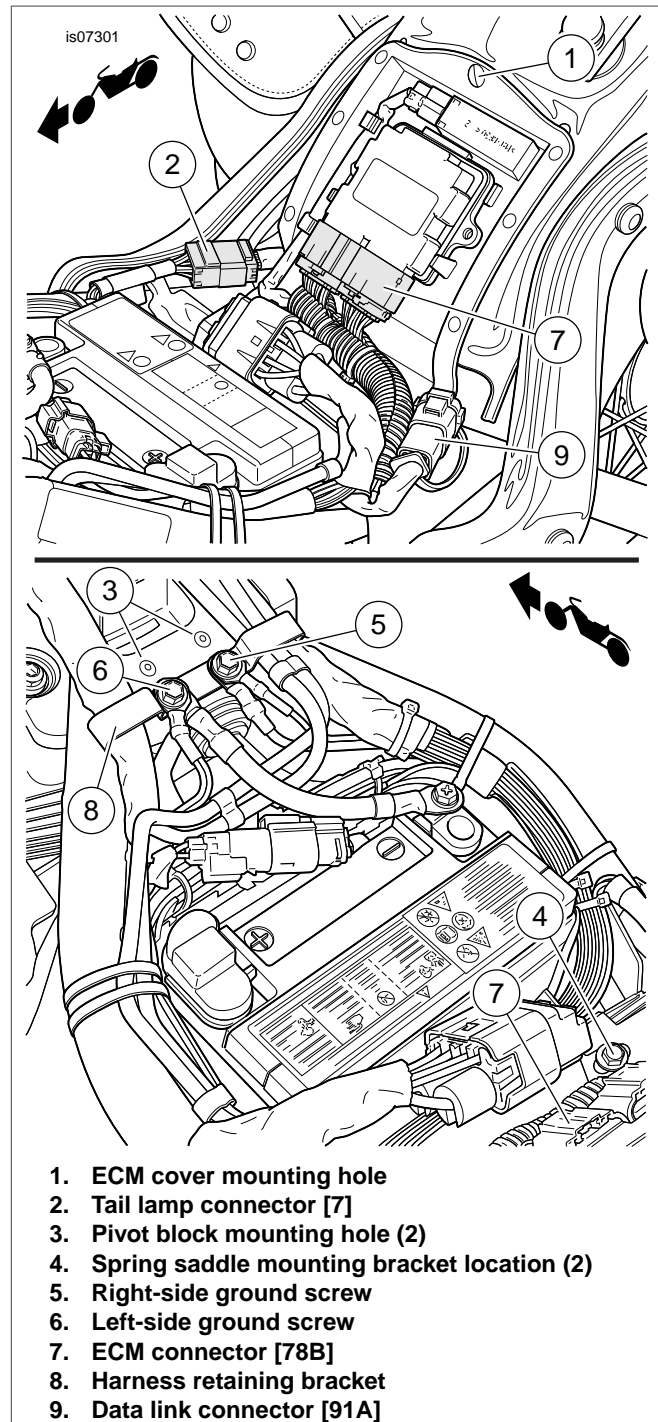
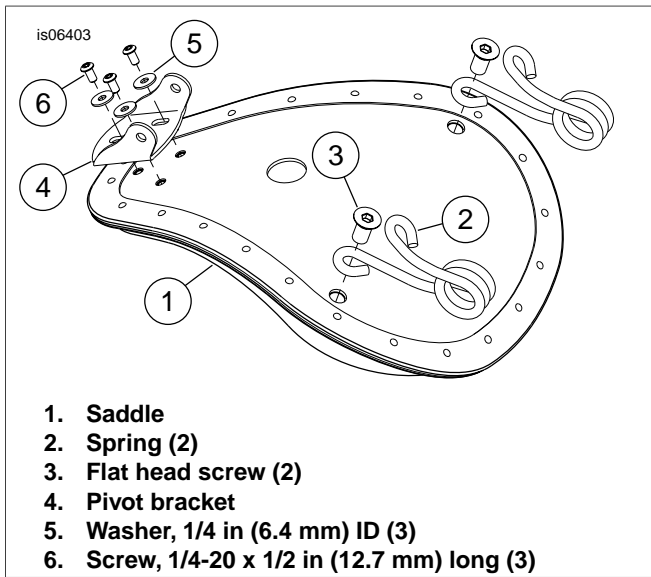
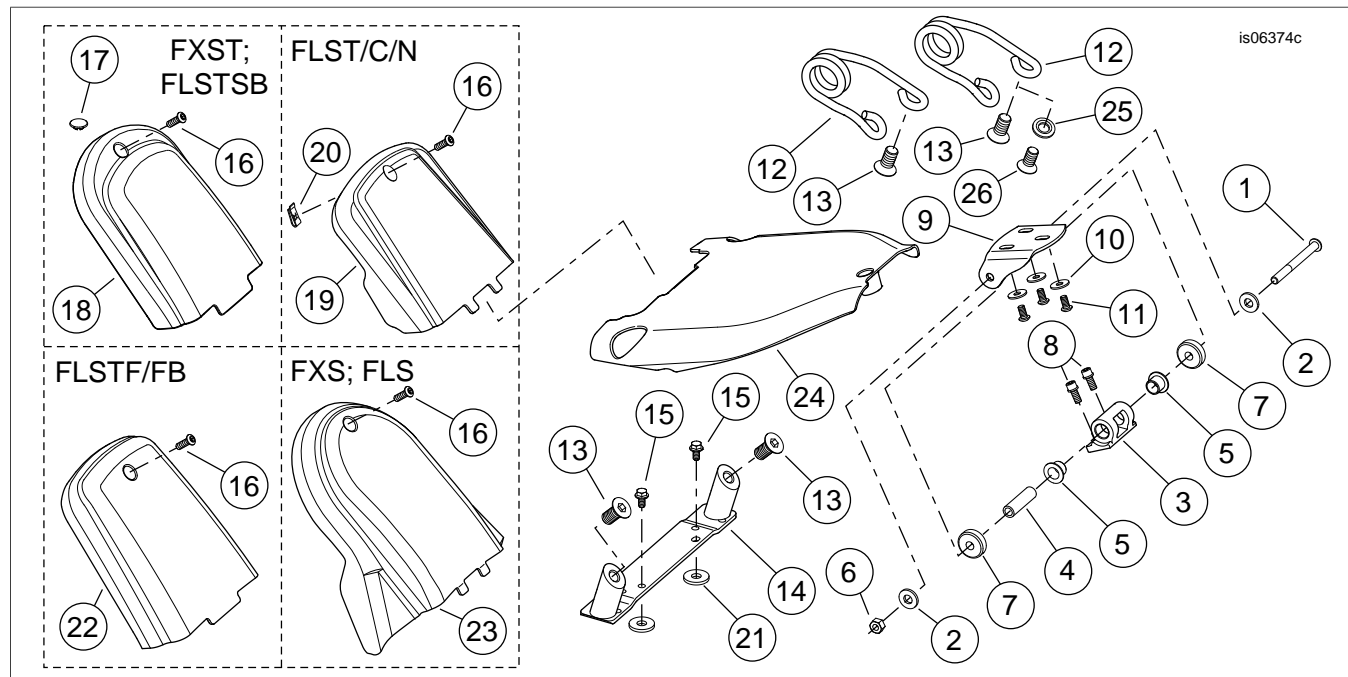

Figure 3. Install Spring Saddle
Figure 5. Install Pivot Bracket to Saddle
Figure 6. Service Parts: Softail Spring Seat Mounting Kit
See Figure 6 and Table 1.
2. **For FXST and FLSTSB models:** See Figure 6. Install plug (17) in the fender hole left vacant after seat hardware removal.
- a. See Figure 6. Install plug (17) in the fender hole left vacant after seat hardware removal. Do not remove the grab strap mounting hardware in the fender.
3. **For ALL models:** See Figure 3. If not already done, disconnect the ECM connector [78B] (7) and tail lamp connector [7] (2).
4. Remove the tail lamp connector (2) and data link connector (9) from the T-studs.
- a. Install two bushings (5) into the pivot block (3) and secure with the 3.5 in (89 mm) long screw (1), pivot sleeve (4), two washers (2) and nut (6).
2. Get the two 1/4-20 x 5/8 in (16 mm) long hex socket head screws from the kit (see Figure 6, Item 8). Apply Loctite 243-Blue to the screw threads.
3. See Figure 3. Fasten the pivot block to the mounting holes at (3) with the screws from Step 2. Tighten the screws to 90-110 **in-lbs** (10-12 Nm).
4. Remove screws at (4), if equipped. The screws can be discarded or properly disposed of.
5. **FLST/C/N models:** Install the clip nut (see Figure 6, Item 20) for upper cover installation.
- a. Using a drill, enlarge the hole (Item 1, Figure 3) to a diameter of 9/32-5/16 in (7-8 mm).
- c. Install the clip nut (item 20, Figure 6) over the sheet metal edge of the ECM bracket and align the holes.
6. **FLST/C/N models:** See Figure 6. Apply Loctite 243-Blue to the threads of screws (15). Install the spring saddle mounting bracket (14) over the two spacers (21) with the two screws (15). Tighten the screws to 96-120 **in-lbs** (11-13 Nm).
All other models: See Figure 6. Apply Loctite 243-Blue to the threads of screws (15). Install the spring saddle mounting bracket (14) and two screws (15) over the mounting flange of the ECM caddy, and fasten to the vehicle frame. Tighten the screws to 96-120 **in-lbs** (11-13 Nm).
7. See Figure 3. Plug the ECM connector (7) into the ECM, and mate the tail lamp connector halves (2).
8. See Figure 6. Install the lower frame cover (24) using the right-side ground screw saved earlier. Tighten the screw to 90-110 **in-lbs** (10-12 Nm).
9. Install the upper frame (ECM) cover (18, 19, 22 or 23) over the ECM. Align the cover so the lower tab fits into the slot of the lower frame cover. Secure with the hex socket button head screw (16) from the kit. Tighten the screw to 60-90 **in-lbs** (7-10 Nm).
1. See Figure 5. Place the saddle (1) upside down on a clean surface.
2. Install each spring (2) to the seat as shown with a hex socket flat head screw (3) from the kit, but do not fully tighten at this time.
3. Align the springs so they are parallel to each other and the seat. Verify that the springs are seated against the metal seat pan under the edge of the leather. Secure the saddle to the springs. See Figure 6.
1. See Figure 6. Get the 3.5 in (89 mm) long screw (1), two washers (2), the pivot sleeve (4), hex nut (6) and two pivot spacers (7) from the kit. Insert the pivot sleeve into the pivot block (3, mounted to the vehicle frame).
2. Apply Loctite 243-Blue to the threads of the long pivot screw (1).
6. See Figure 6. Secure the springs to the rear mounting bracket with flat head screws (13). Tighten the screws to 25-30 ft-lbs (34-41 Nm).
7. Secure the screw with the washer (2) and nut (6). Tighten the nut and screw to 96-120 **in-lbs** (11-13 Nm).